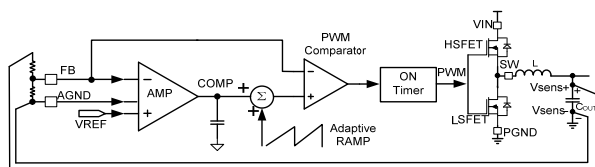

Figure 2: COT Control
The MPQ8626 employs constant-on-time (COT) control to achieve fast load transient response. Figure 2 shows the details of the control stage of the MPQ8626.
The MPQ8626 provides accurate EN thresholds, so a resistor divider (R_3/R_4 in Figure 2) from VIN to AGND can be used to program the input voltage at which the MPQ8626 is enabled. This is highly recommended for applications where there is no dedicated EN control logic signal to avoid possible under-voltage lockout (UVLO) bouncing during power-up and power-down. The resistor divider values can be determined with Equation (7):